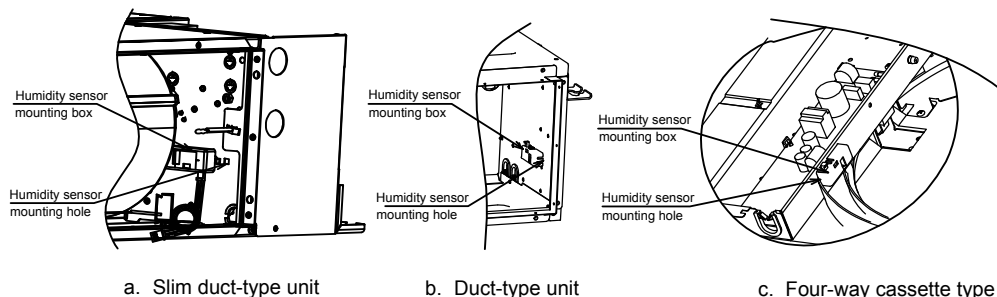

Fig. 3: Humidity sensor mounted on electric box
- As shown in Fig. 3(a,b,c), install the humidity sensor on the back of electric box through both foot pieces of humidity sensor mounting box. Align the two foot pieces of humidity sensor mounting box with the electric box humidity sensor mounting hole, and gently press the foot pieces.
For Console type, turn auxiliary electrical box over and put the humidity sensor into the auxiliary electrical box as shown in Fig. 3(d)